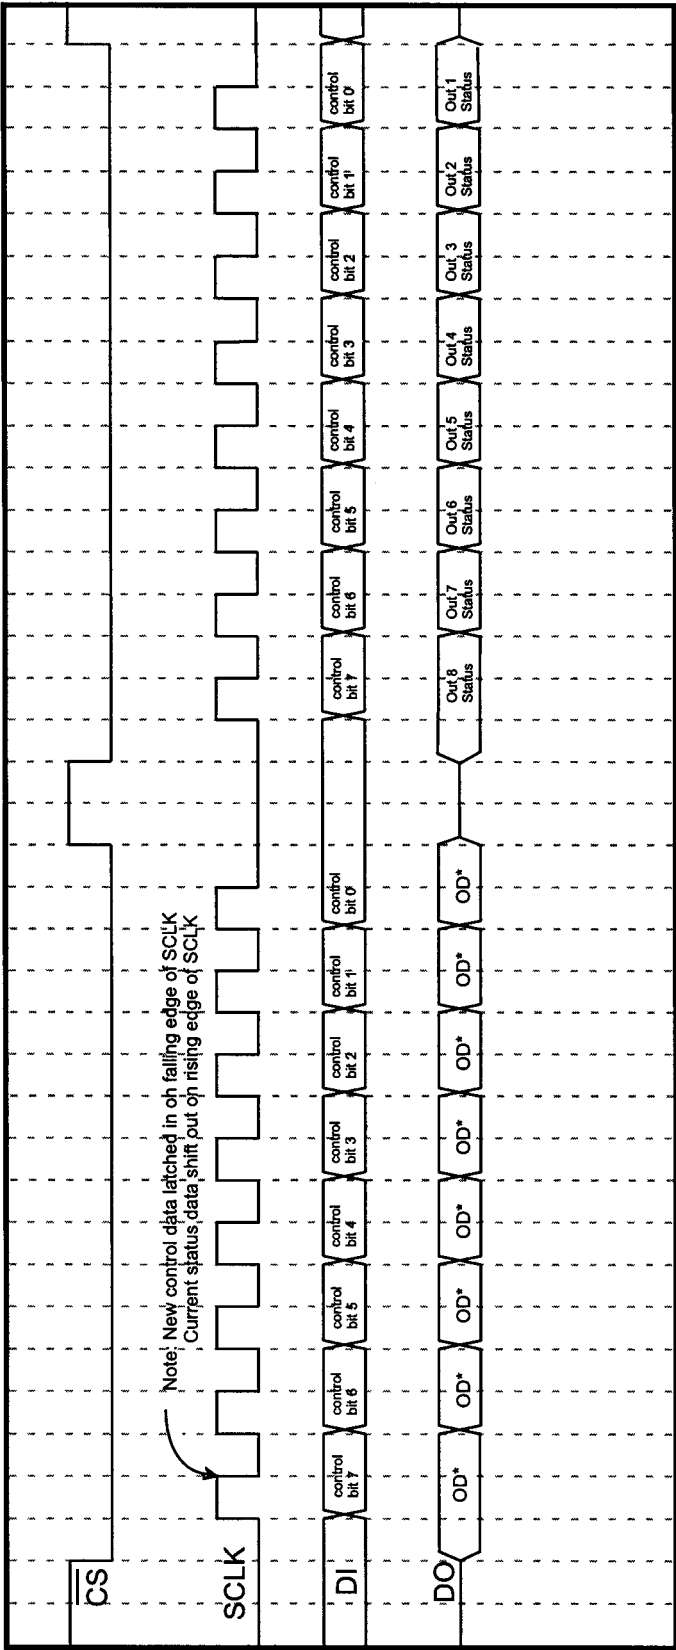

### Figure 22. 33880 SPI System Daisy Chain
**Figure 22** illustrates the Daisy Chain configuration using the 33880. Data from the MCU is clocked daisy chain through each device while the Chip Select ( $\overline{CS}$ ) bit is commanded low by the MCU. During each clock cycle output status from the daisy chain, the 33880 is being transferred to the MCU via the